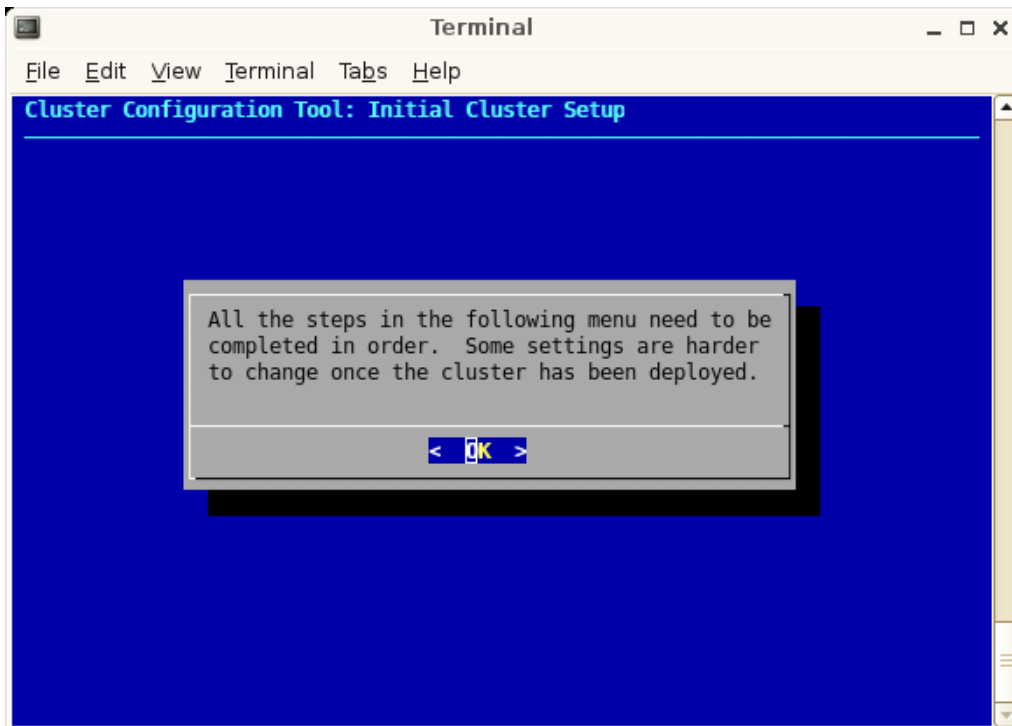

Figure 2-10 Cluster Configuration Tool: Initial Cluster Setup Screen
22. The **Cluster Configuration Tool: Initial Cluster Setup** screen appears, as shown in Figure 2-10 on page 38. Read the notice and then click **OK** to continue.